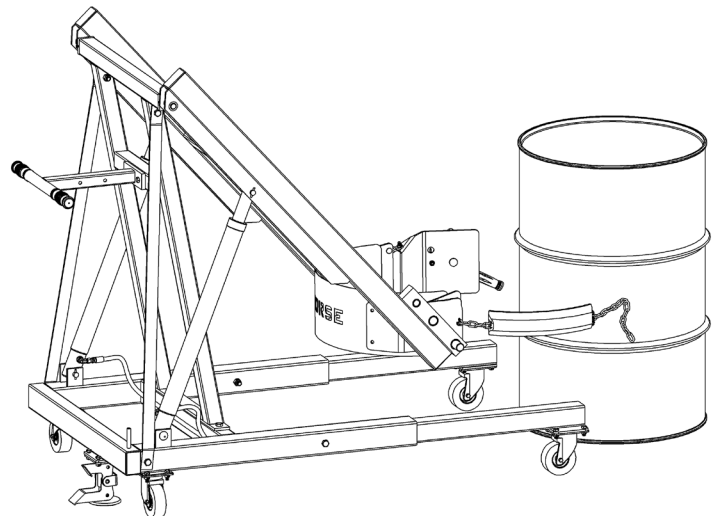

Figure 3.1
- 2.) Using "LIFT" control as described in "**Machine Description - Controls**", position drum holder assembly with back band at middle of drum (Figure 3.1). With ratchet plate swung open and cinch chain hanging from chain hook, push unit until back band rests firmly against drum. Some adjustment to tilt angle of saddle may be necessary to ensure band fits flush on drum.